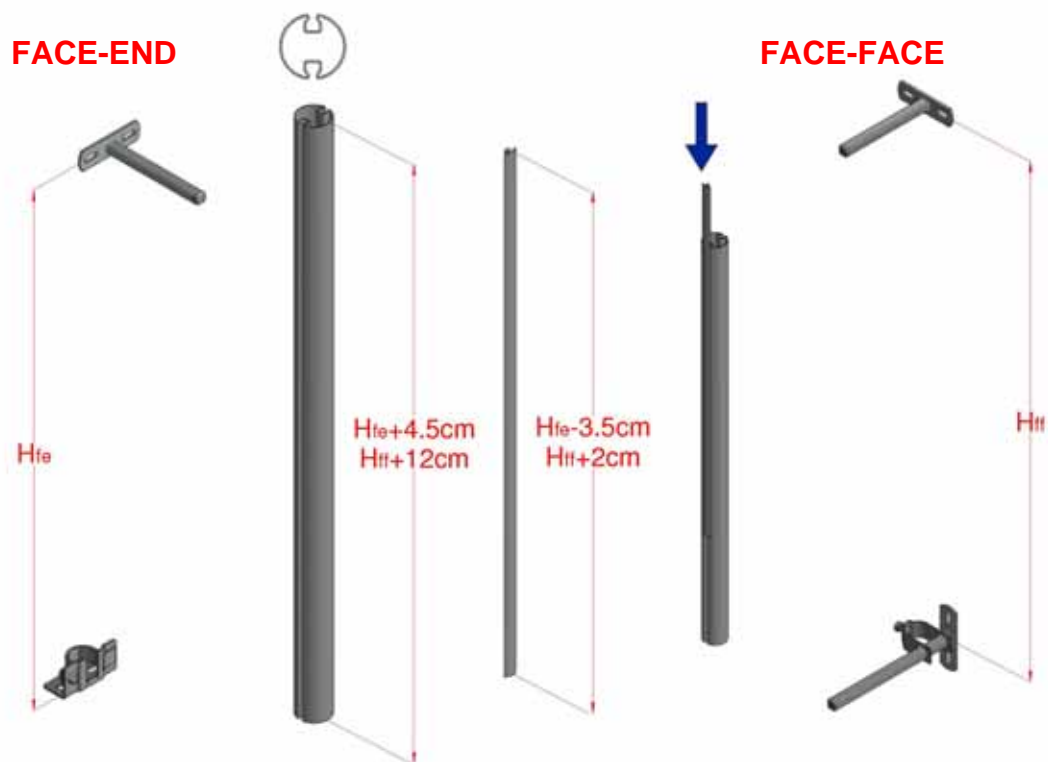

Figure 17, Outer Control Tube Assembly
- 4.7 Outer Control Tubes are required, (two at each end) and at all intermediate bay uprights. Cut the relevant tube to length as shown in Figure 17 and de-burr the ends of sharp edges. Cut and insert the Protective Insert to all intermediate tubes. All intermediate outer Control Tubes are double fluted. (The end Control Tubes are single fluted for heights less than 3m and double fluted for 3m and above).